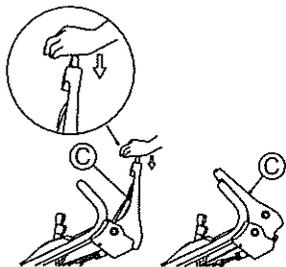

Fig. 17.
- 3 Push Blade lever (C) forward while pressing its yellow button. (See Fig. 17.) Then, the blade starts rotating.